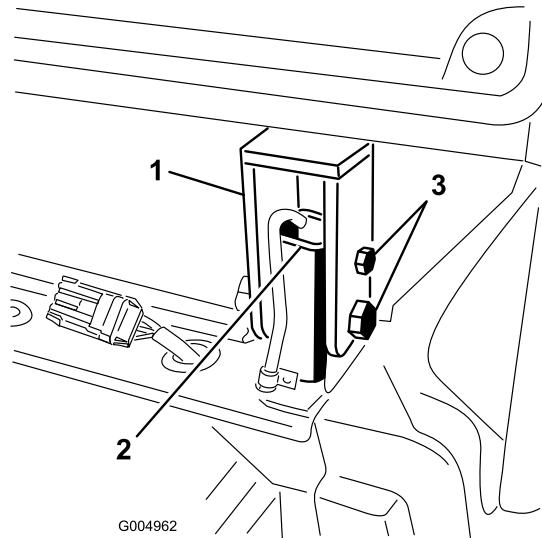

Figure 84
25. Remove the bolts and nuts securing rear cab mounts to the ROPS posts (Figure 84). Adjust the floor jack if the bolts are binding and difficult to remove.